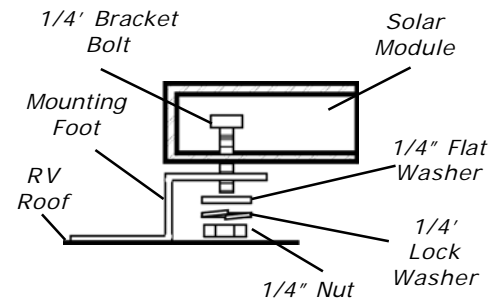

Figure 2
- Assemble the mounting feet onto the ends of the solar module using the 1/4" bolts, washers and nuts as shown in **Figure 2**.